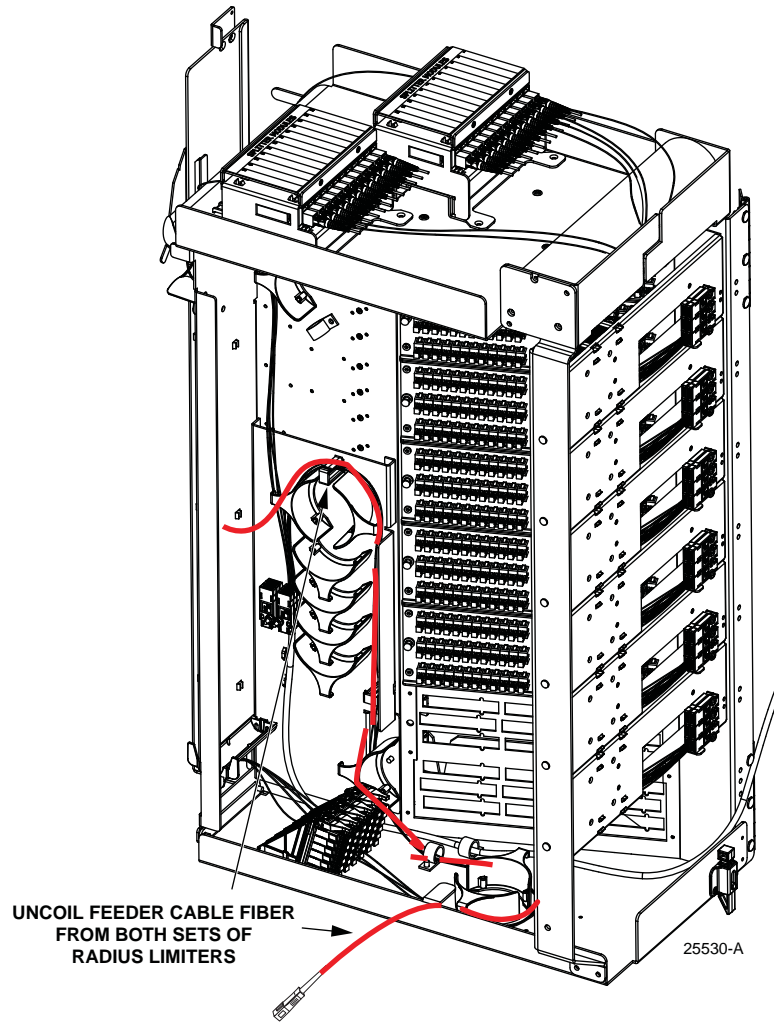

Figure 32. Uncoiling the Feeder Cable Fiber
5. Carefully unwind the feeder fiber from the radius limiters located on the bottom and on the left side of the swing-out assembly. Figure 32 shows the section of the fiber that will need to be released for re-routing. When necessary, backfeed the fiber to free the connector from the remaining fibers.